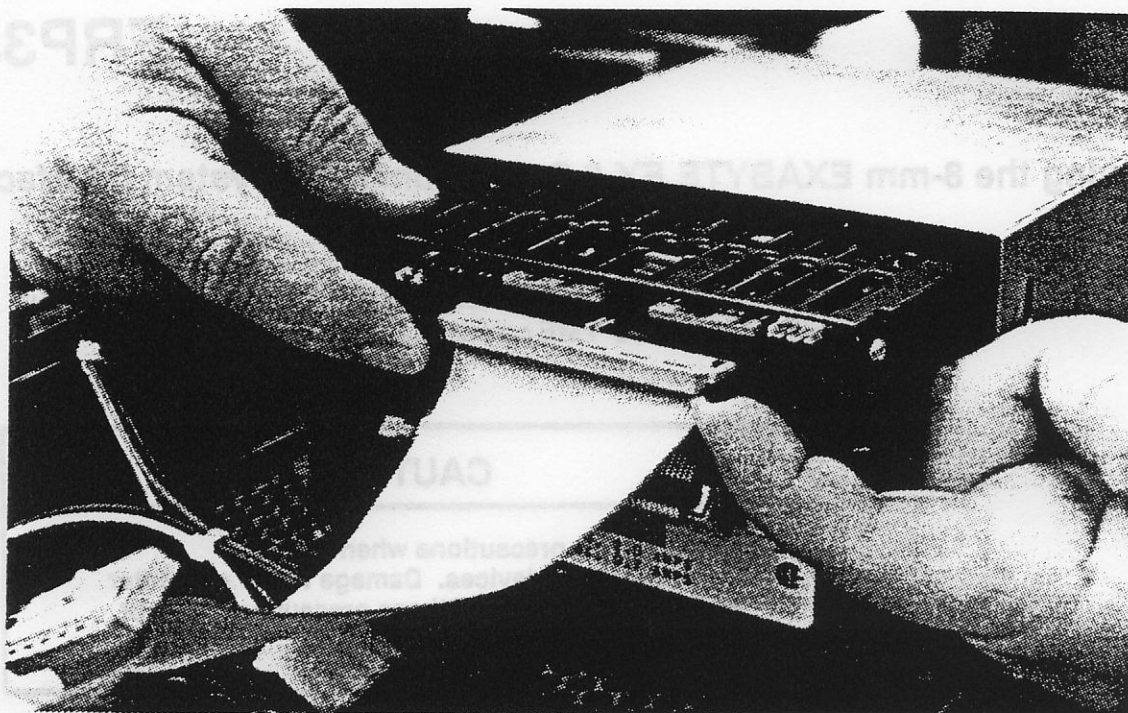

Figure 7-35. EX-2 SCSI Controller Cable
6. Remove the SCSI controller cable from the EX-2 drive by using the connector cable ejector tabs. Refer to Figure 7-35.